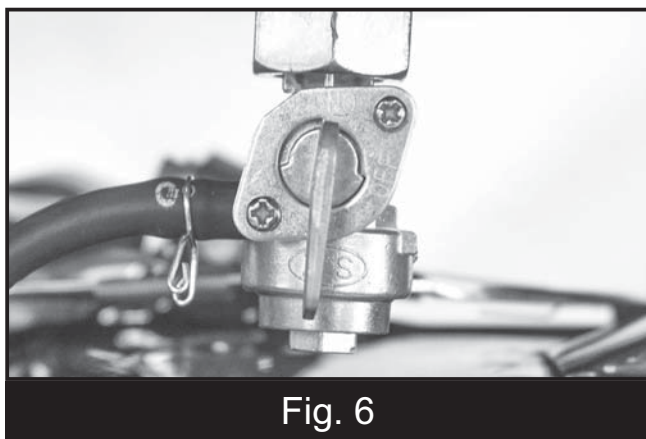

Fig. 6
1. Turn the fuel valve to the ON position (Fig.6)